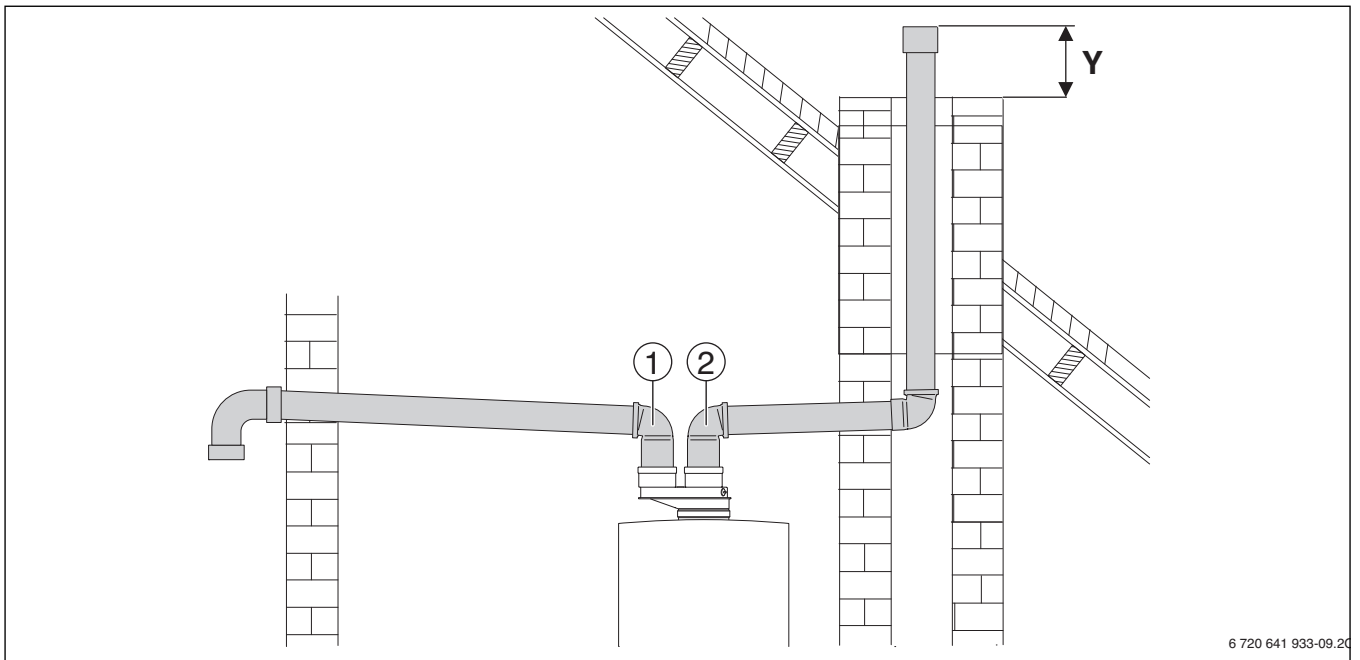
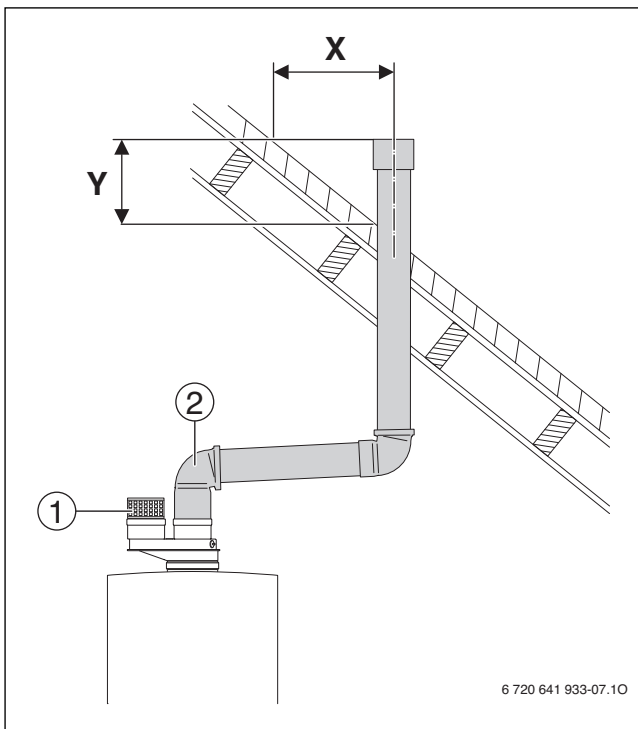
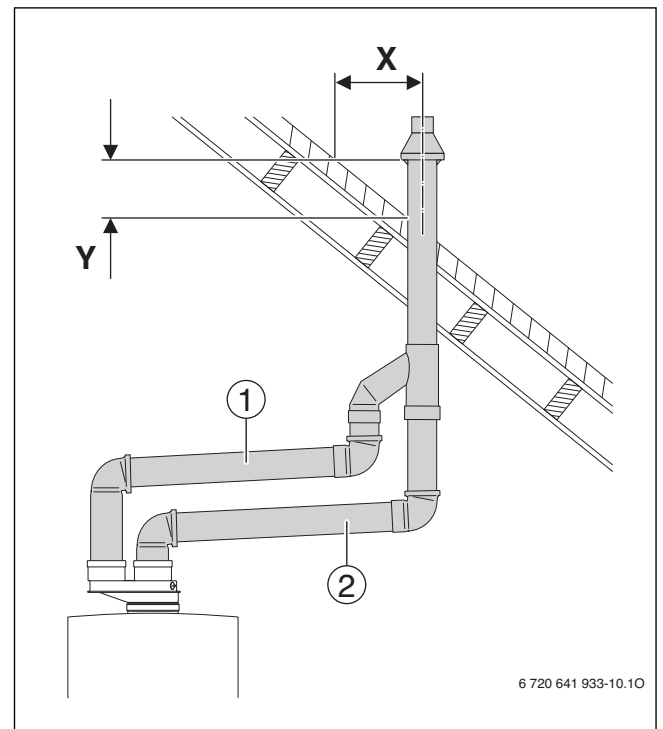

Fig. 29 Vertical venting system (sealed combustion)
Fig. 30 Vertical venting system (room air only)
Fig. 31 Vertical venting system (sealed combustion)
**Key to Fig. 29, Fig. 30 and Fig. 31:**
Installation → Fig 31 Concentric terminal end